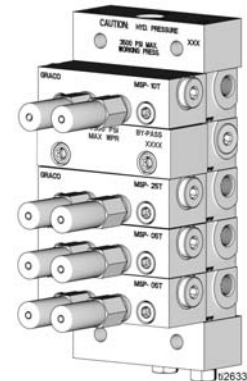

FIG. 14:
**NOTE:** Refer to the MSP Divider Valve Assembly Table and MSP Divider Valve and Lube Points Assembly reference illustrations, FIG. 11 - FIG. 14 (page 20), to verify assembly orientation.
8. Install outlet plugs in all open ports as shown in the MSP Divider Valve Assembly reference illustrations (FIG. 11 - FIG. 14) on page 20.
Secondary: No Tailgate Lubrication (FIG. 14)